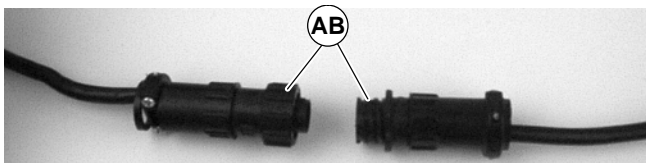

Figure 17
3. For DC variable speed motor, unplug motor cord at disconnect (AB of Figure 17).